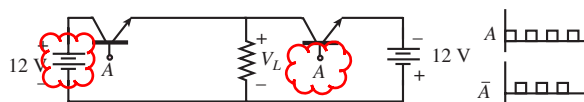

Figure P12.33
In Figure P12.33 the battery symbol on the right hand side is upside down (the polarity is correct). And the right switch should be labeled  $\bar{A}$ .
**12.33** In the switched-mode power supply of Figure P12.33, sketch the load voltage signal,  $V_L$ .